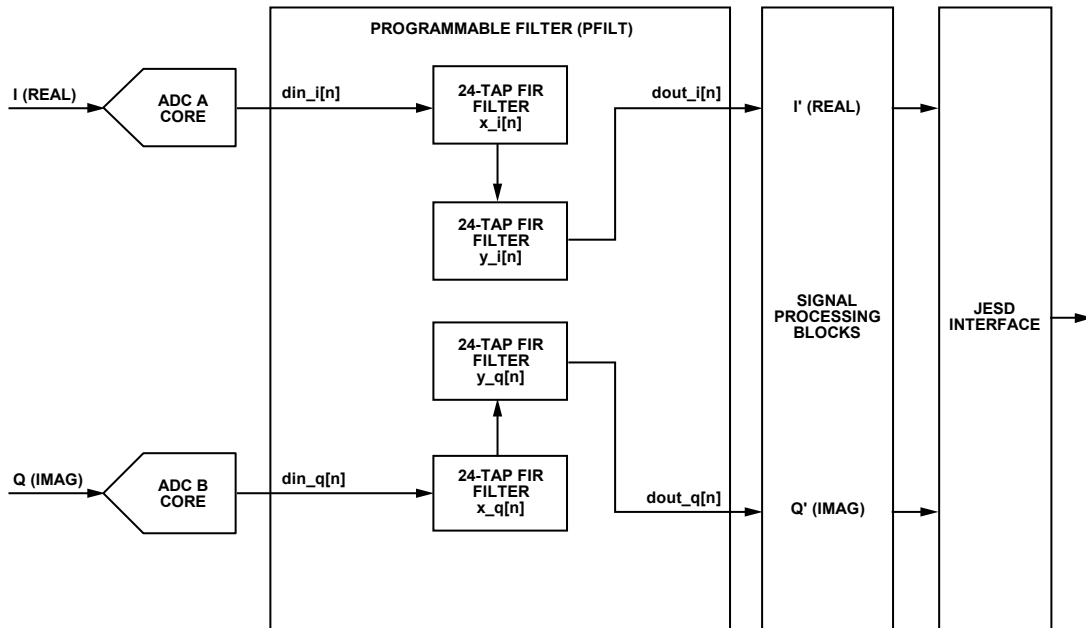

Figure 68. Real Two Cascaded 24-Tap Filter Configuration
- Real set of two cascaded 24-tap filters for each I/Q channel (see Figure 68)